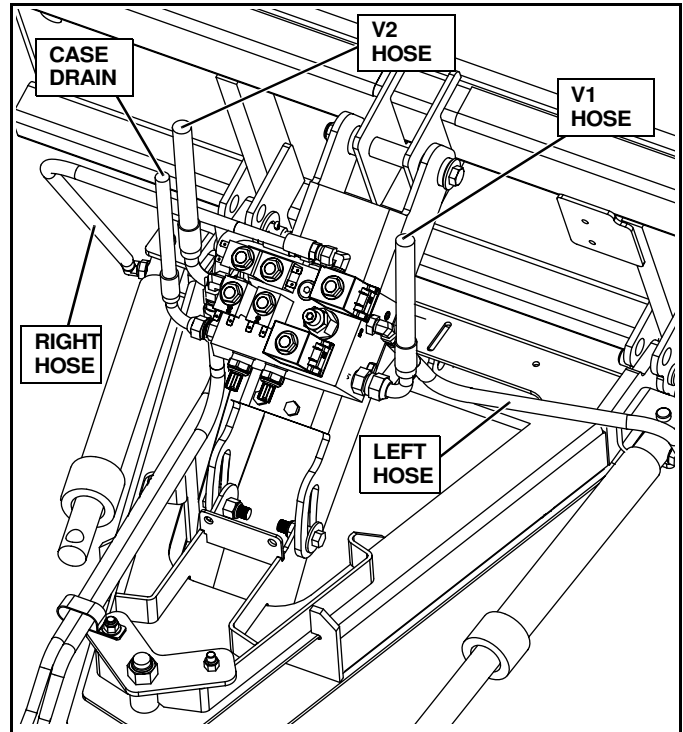

Figure 2-13
7. 26R SKD Only: Connect right (passenger side) angle cylinder to the hose from the port marked PS. Connect the left (driver side) angle cylinder to the hose from the port marked DS. (See Figure 2-13)
8. 26R SKD only: Connect couplers to end of the auxiliary hydraulic hoses. These hoses are connected to the ports marked V1 and V2. (See Figure 2-13)
9. 26R SKD Only: connect a coupler to the hose the comes from the port marked CD (Case Drain). This hose drains the excess overflow to the skid steer case drain. (See Figure 2-13)